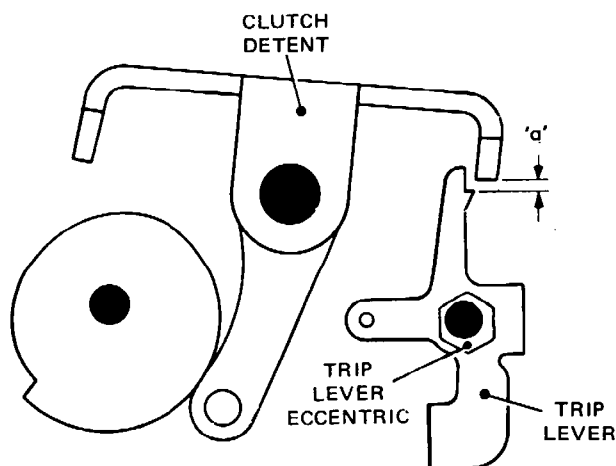

Fig. 4.18 TRANSMITTER TRIP LEVER
- 20.1 Release the clutch detent, Fig. 4.18, and turn the camshaft until the detent is on the highest point of the cam. Check that there is now a clearance of 0.006–0.012 inch (dimension 'q') between the detent arm and the step on the trip lever.